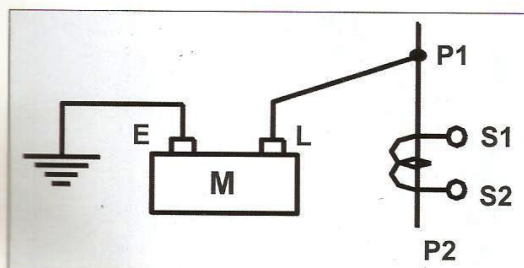

Fig 2 Primary to Earth
- 1 Primary to Earth: Select the megger rating as per voltage class of CT. Generally 2.5 kV or 5 kV megger should suffice. The connection diagram is shown in Fig 2. The minimum acceptable value is  $(kV+1) M\Omega$ . For example, for 11 kV CT, the value should be 12  $M\Omega$  or above.